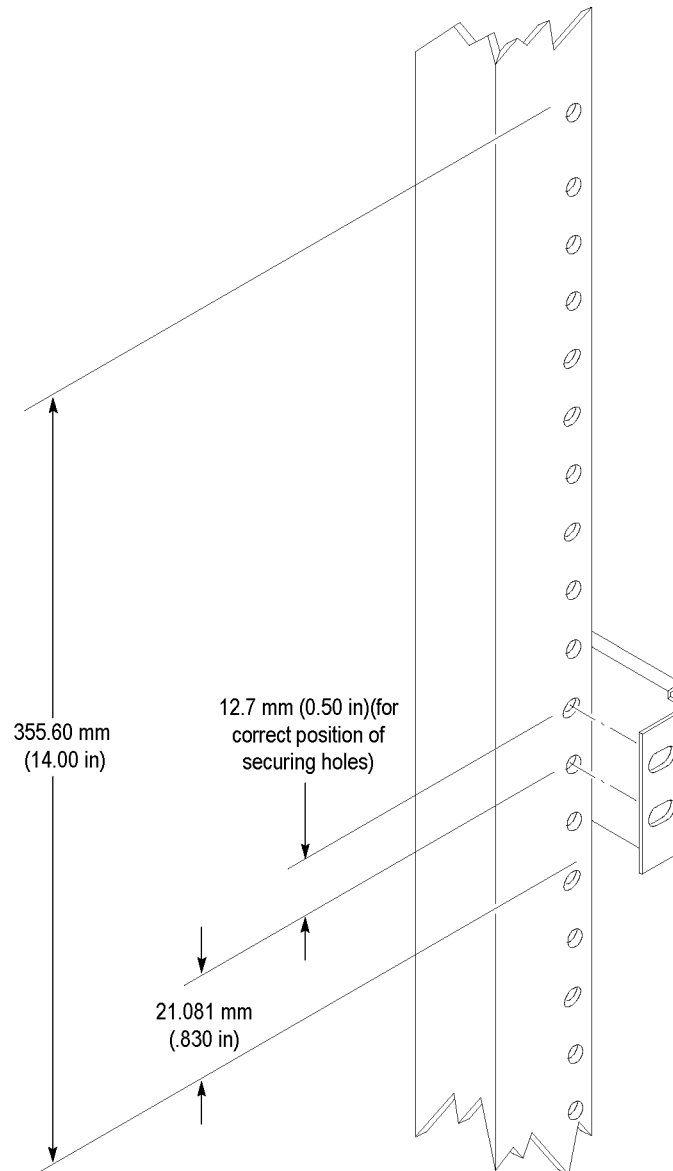

Figure 8: Vertical clearances for rack installation (left-front rail shown)
2. Select two 0.5 inch-spaced holes that have at least 14 inches of clearance above, on all four rails of the rack. (See Figure 8.)